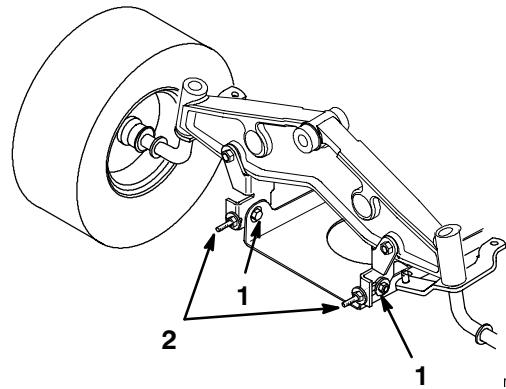

Figure 54
7. To adjust the front-to-rear blade slope, loosen the front pivot plate mounting bolts slightly (Fig. 54).
8. Rotate the locknuts on the eyebolts to change the adjustment (Fig. 54). To raise the front of the mower, tighten the eyebolt locknuts. To lower the front of the mower, loosen the eyebolt locknuts.
9. After adjusting both of the eyebolt locknuts evenly, check the front-to-rear slope again. Continue adjusting the eyebolts until the front blade tip is 0-3/8 in. (0-9.2 mm) lower than the rear blade tip (Fig. 54).
10. When the front-to-rear slope is correct, tighten the pivot plate mounting bolts (Fig. 54).